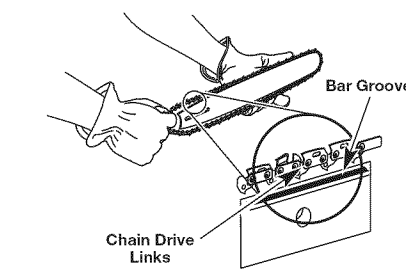

Fig. 37
2. Place the chain drive links into the bar groove as shown (Fig. 37).